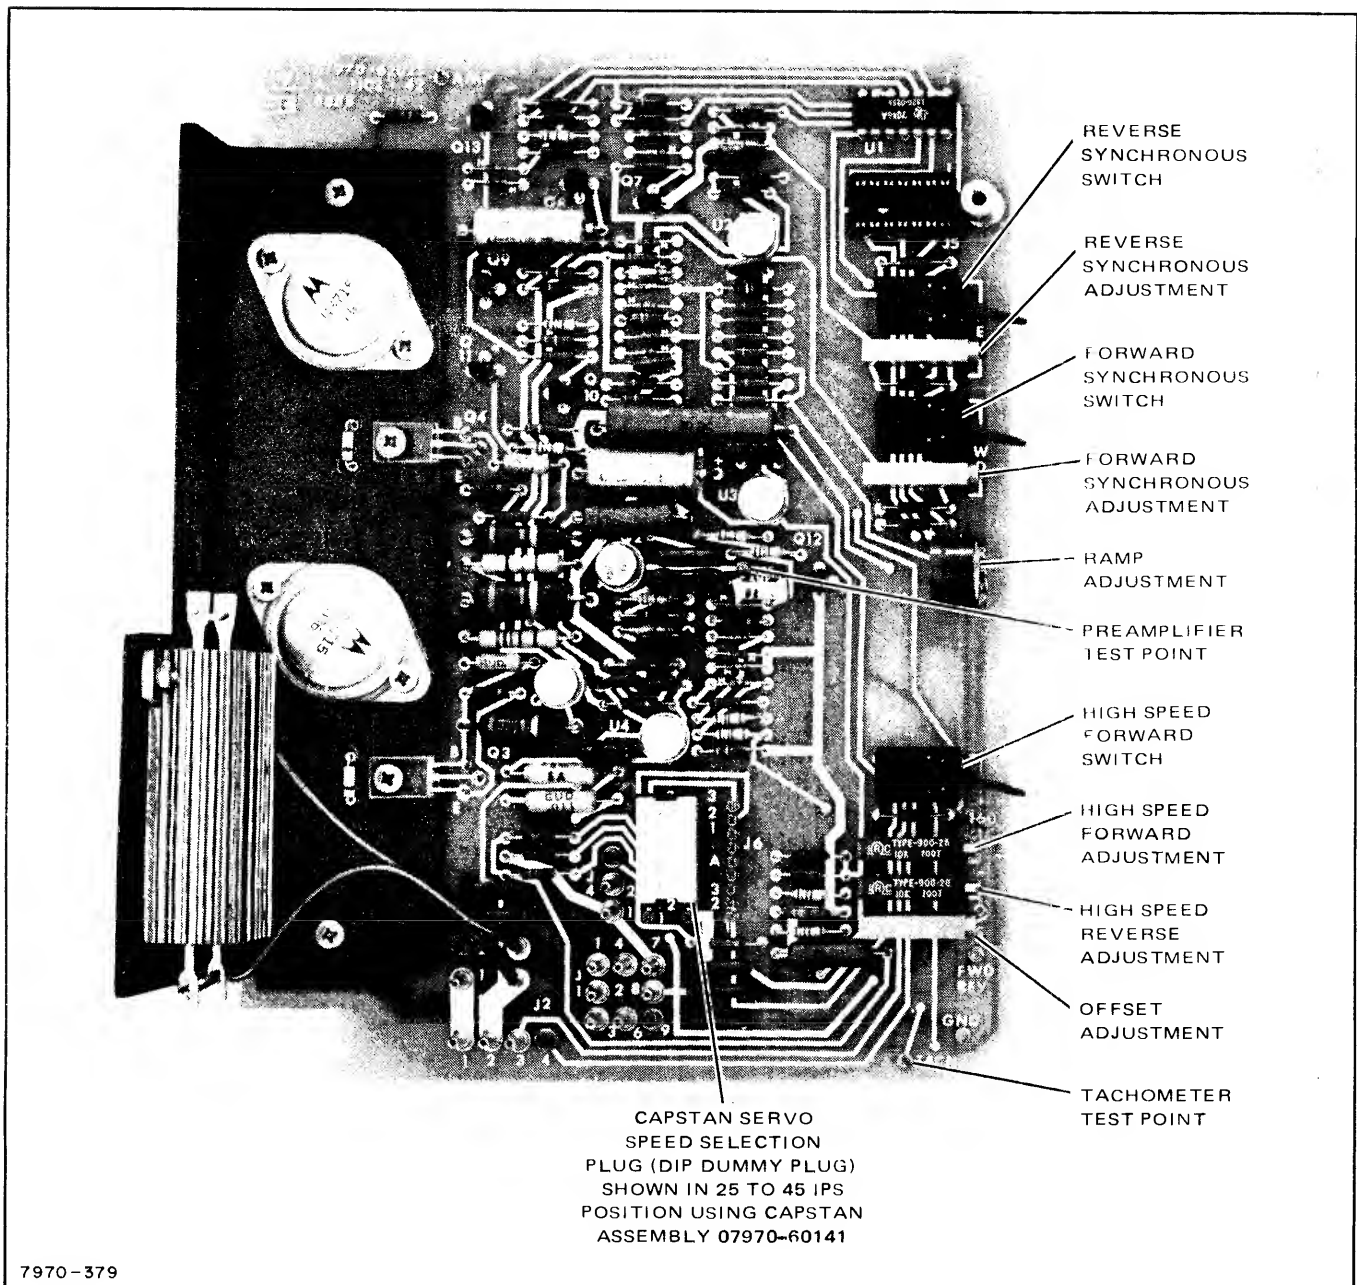

Figure 5-3. Single Speed Capstan Servo PC Assembly, Test Points and Adjustments
For capstan switch and adjustment locations see figure 5-3.
5-24. CAPSTAN SERVO FORWARD AND REVERSE DRIVE SPEED ADJUSTMENTS. Prior to performing the servo forward and reverse drive speed adjustment, ensure that power supply voltages and offset current are within tolerance. Figure 5-3 shows the location of service switches and forward and reverse speed adjustments used in the next step.
- b. On the capstan servo PCA place unit in high-speed forward mode with the high-speed forward (+160) service switch (figure 5-3), and use the high-speed forward (+160) adjustment (R53) to adjust speed until counter indicates  $53,333 \pm 1000$  Hz. If adjustment is required, adjust until the counter indicates between 53,233 and 53,433.